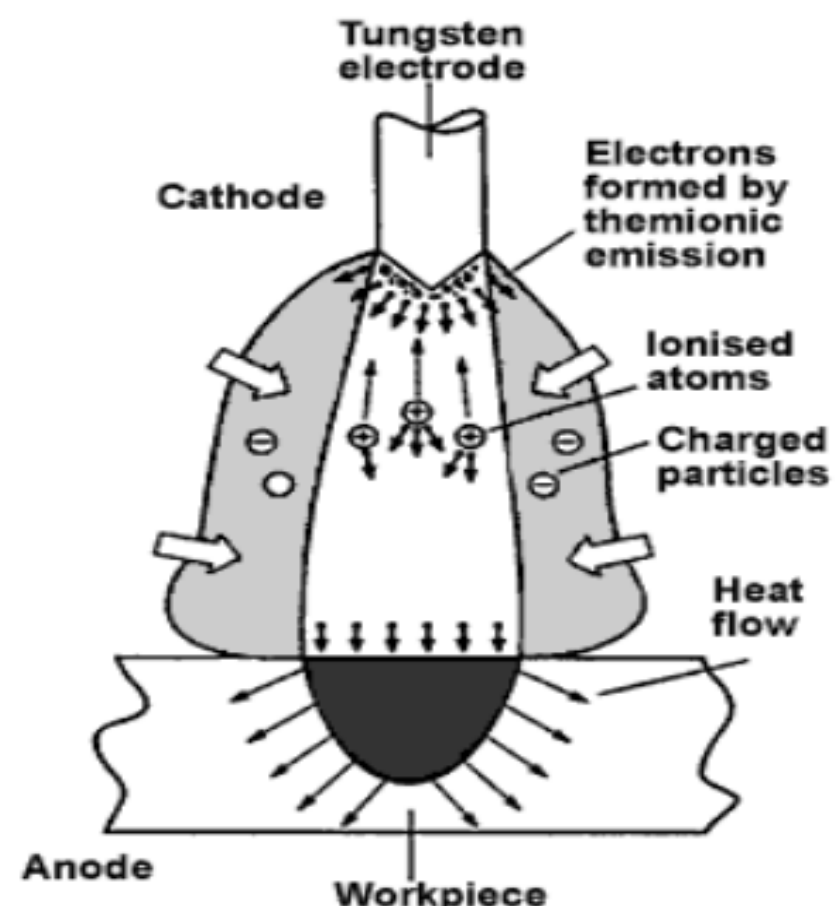

Figure 1: Mechanism proposed by Lucas and Howse for the A-TIG process
- Arc constriction- Vaporized flux captures electrons in cooler regions of the arc. In these regions negatively charged particles are propelled to center of the arc due to a strong electric field resulting in a narrower, dense arc (figure 1).